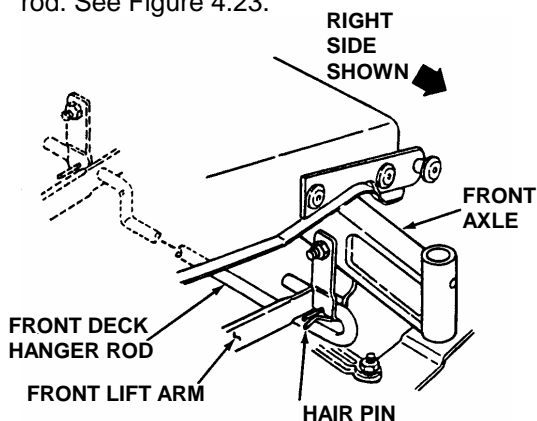

FIGURE 4.23
5. Remove hair pins from the front deck hanger rod. See Figure 4.23.